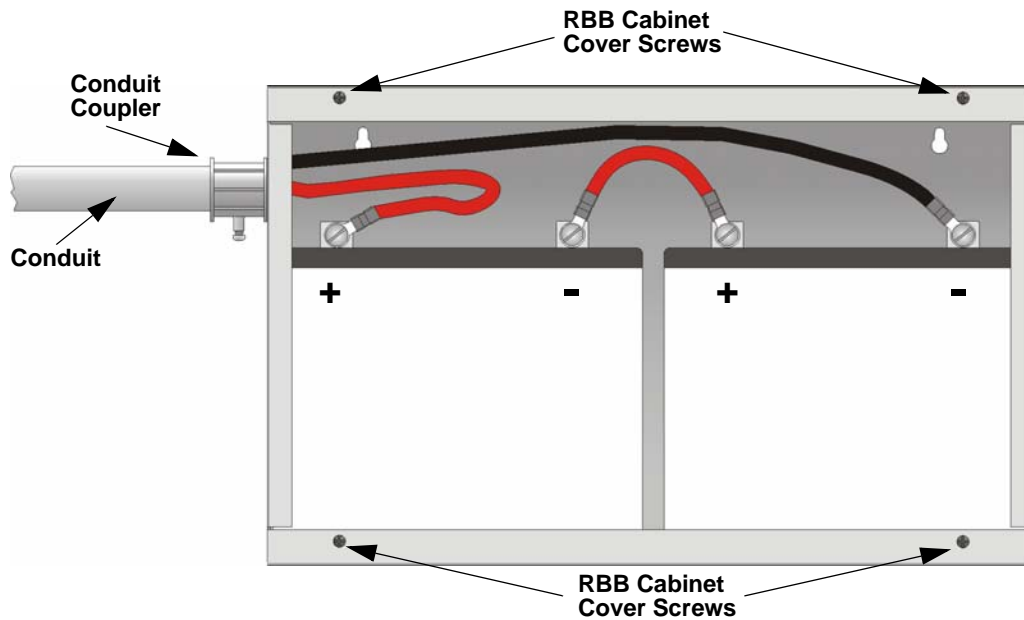

Figure 4-7 Battery Connections in the RBB Cabinet
- Run extended battery cable from control panel cabinet through conduit to RBB cabinet. See Figure 4-7.
Note: Figure 4-7 is an example of how the wire connections can be routed. However, any other cabinet knock-outs (on either the main control panel or the RBB cabinet), that are not previously being used may be utilized to connect conduit between the two cabinets.
- Connect battery leads to the backup battery terminals. See Figure 4-7.
- Insert the RBB cover screws into the cover mounting holes (see Figure 4-7).